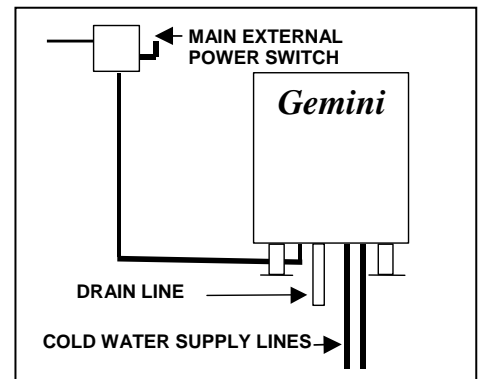

Figure 6-2 Main External Power Switch
9. After the automatic fill cycle has ended, turn OFF power at the external main power switch. See Figure 6-2. DO NOT change the position of the ON/OFF levers.